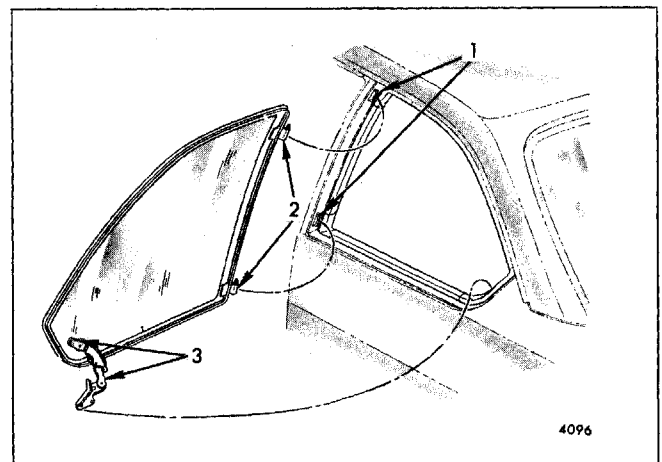

Fig. 6-38-Optional Swing-Out Quarter Window Removal - H-77 Style Shown (X-17,27 Styles Similar)
3. Swing glass outboard from rear to permit disengagement of hinge straps from hinge pins to body pillar (Fig. 6-38).
1. Position forward edge of glass assembly to the window opening and engage hinge straps to hinge pins (Fig. 6-38).